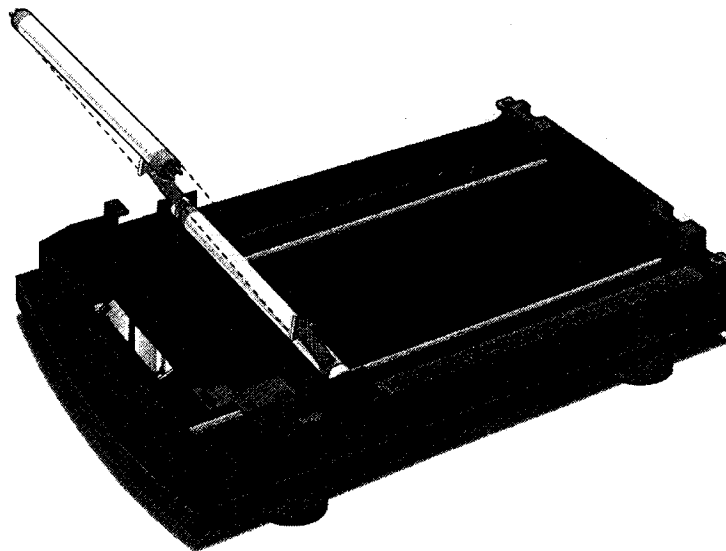

Fig. 5.3
11. Lift the lamp from the sockets as shown in Figure 5.3.